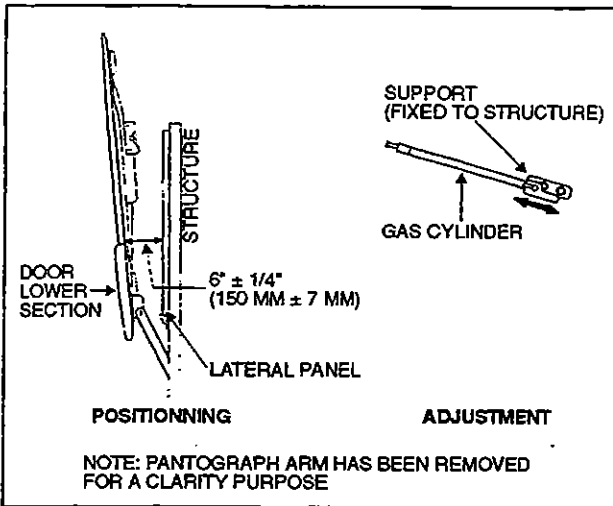

Figure 23
6. Fully open the door, loosen the two bolts retaining each gas cylinder support to structure, position door parallel with adjacent doors and complete tightening bolts. A measure of  $6$ "  $\pm$   $1/4$ " (150 mm  $\pm$  7 mm) between door panel lip (at level of upper edge of lower section) and the lateral panel is given as a guide. Refer to figure 23.